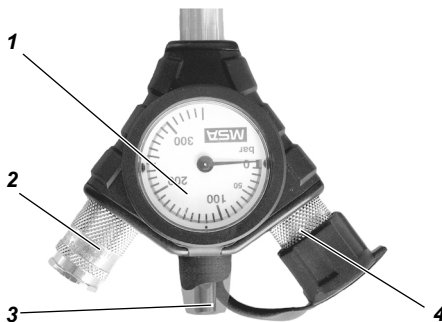

Fig. 3 Manifold
The manifold (→ Fig. 3) is connected at the end of the single line. It consists of the pressure gauge (1), the coupling for the lung governed demand valve (2) as well as an acoustic warning device (3) (signal whistle). It triggers a continuous warning signal when the cylinder pressure drops below 55 ± 5 bar. The second connection (4) connects a second lung governed demand valve (e.g. rescue kit).